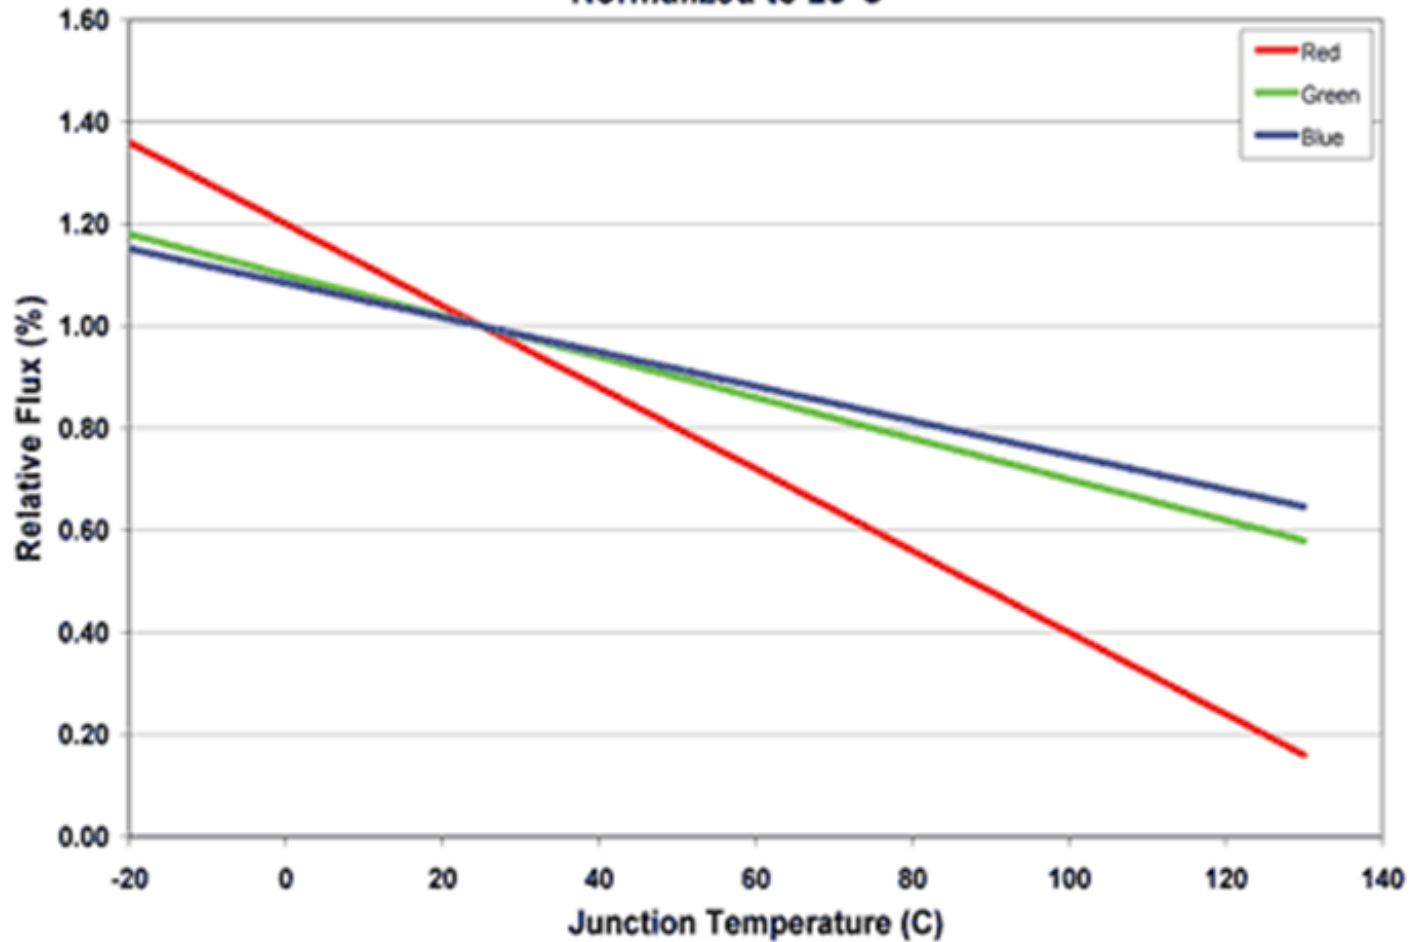

Fig. PF-7-2-15 LED Junction Temperature versus Light Output
- The light output of an LED for a constant current varies as a function of its junction temperature (See **Fig. PF-7-2-15**).